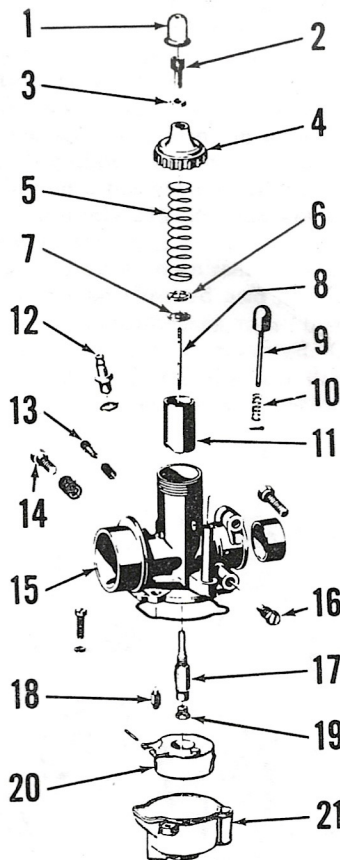

Fig. SA1-2—Exploded view of Bing carburetor used on 80B.
**CARBURETOR.** Refer to Fig. SA1-2 for an exploded view of 17MM Bing carburetor used. Carburetor adjustments should be made with engine at normal operating temperature. Initial setting of air screw (AS—Fig. SA1-3) is 2 turns out from a lightly seated position. Adjust idle speed screw (IS) to obtain slowest smooth idle speed possible. Standard size of idle jet (16—Fig. SA1-2) is #45 and standard size of main jet (19) is #80.